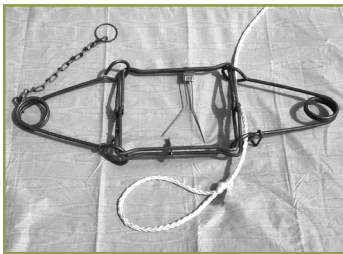

Figure FS5a. Step 1
- 1) Thread the rope through the eyes of one of the springs (Figure FS5a).